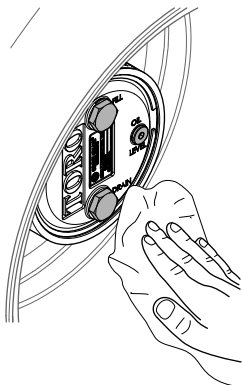

Figure 85
3. Wipe clean the planetary and brake housings (Figure 85).